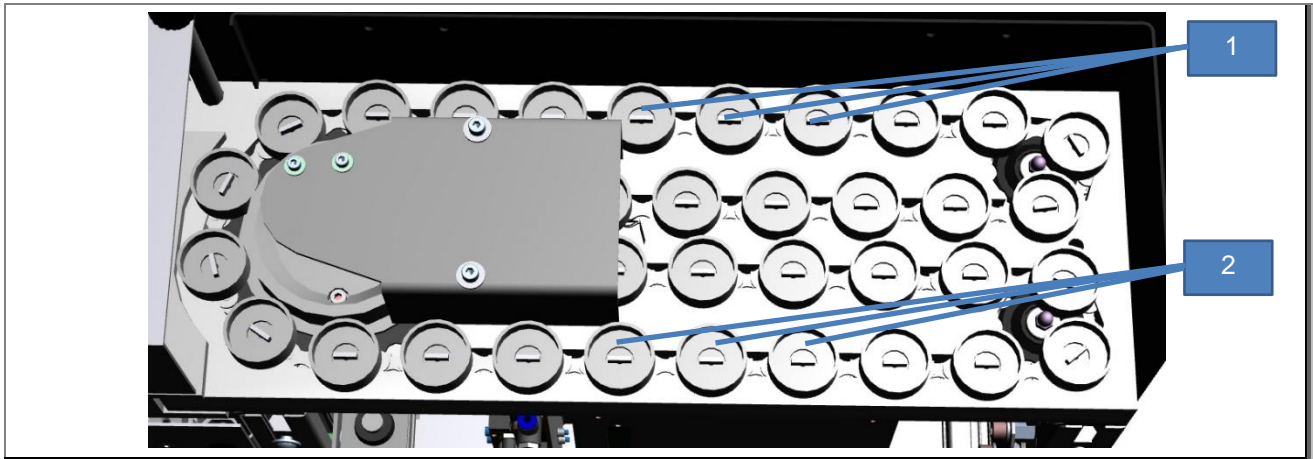

Fig. 11: Crucible chain
1. Press a number of crucible trays in the back row down (1) to hold them in their current position (see Fig. 11: Crucible chain).
2. Move the front crucible trays (2) to the right and left (see Fig. 11: Crucible chain). The crucible trays should have approx. 1 mm of play.